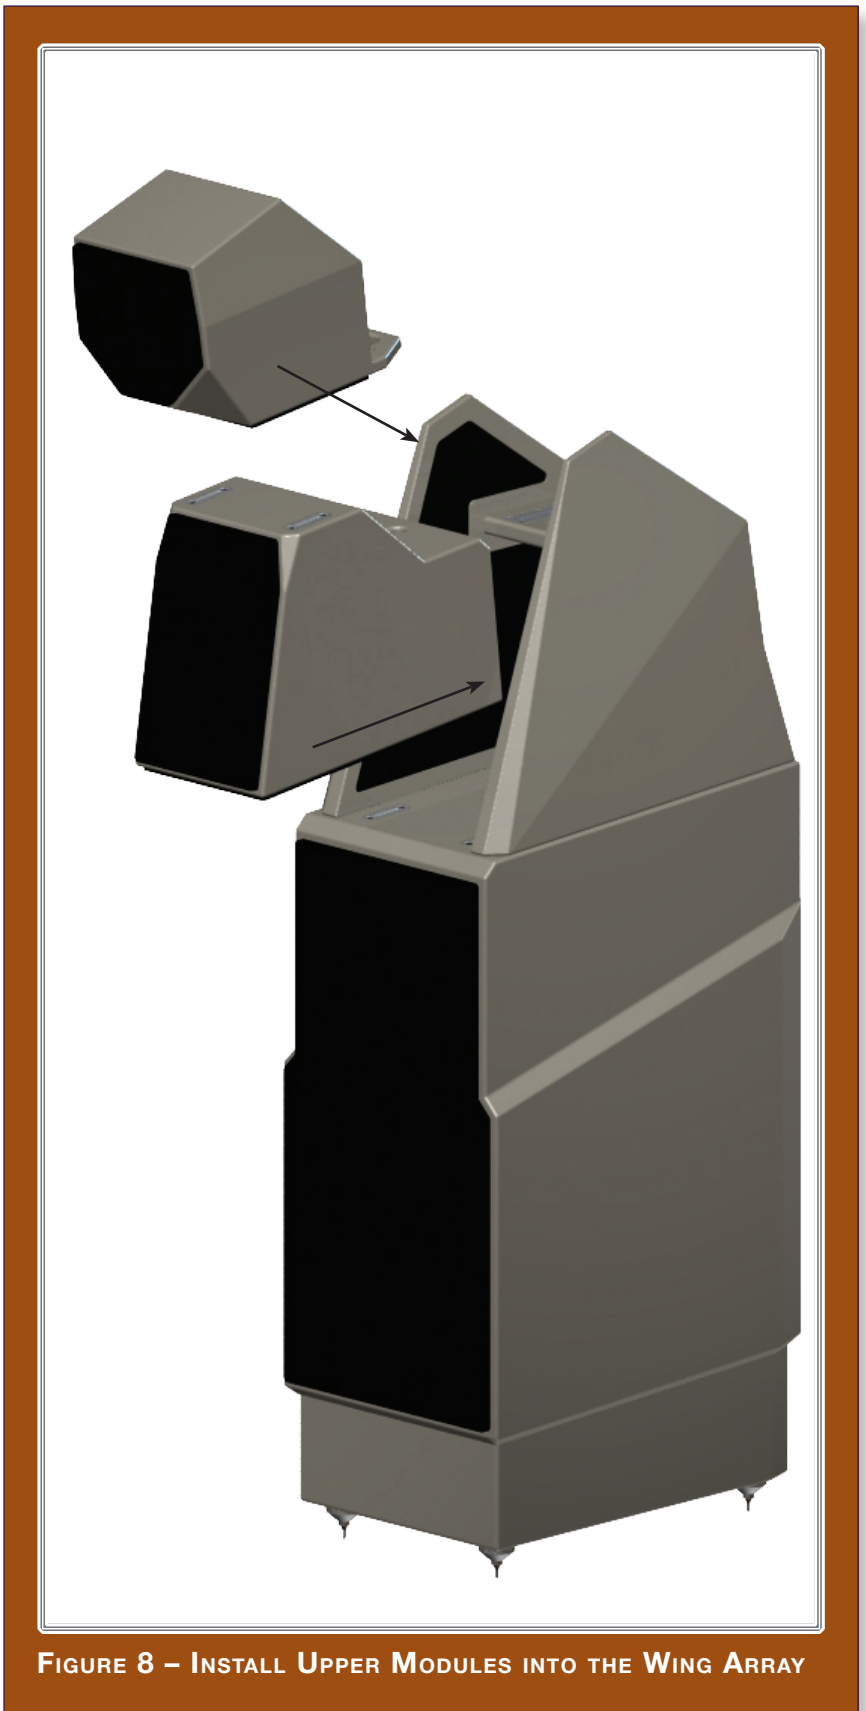

FIGURE 8 – INSTALL UPPER MODULES INTO THE WING ARRAY
- With the front spikes pointing down, carefully lower the tweeter/midrange module between the alignment wings and set it on top of the woofer enclosure (see Figure 8). There are alignment tracks that accommodate the spikes.